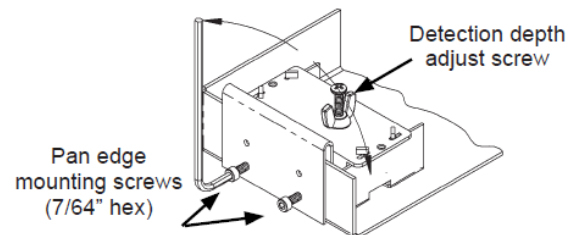
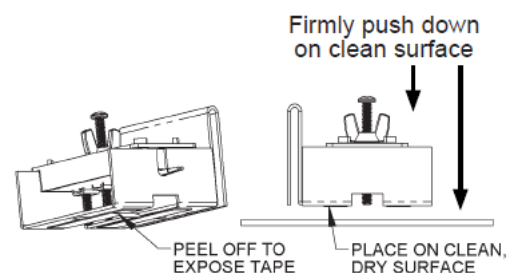
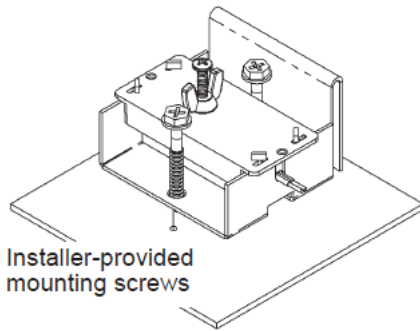

Figure 2: Remote Spot Sensor Pan Rim Mounting
Figure 3: Remote Spot Sensor Tape Mount
Figure 4: Remote Sensor Floor Mount
1. The sensor can be secured to a flat surface using the adhesive mounting strips (Fig. 3) or a screw (Fig. 4). It can also be mounted to a drip pan rim using the provided 7/64" hex set screws as shown in Fig. 2. If using the adhesive mounting strip, clean the surface before adhering.